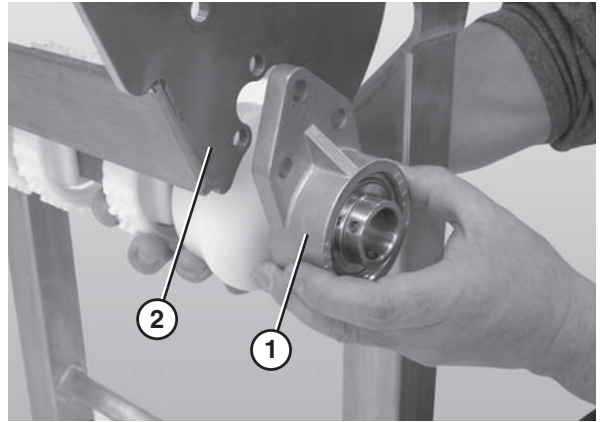

Figure 58
7. Disconnect the 3 hole flange bearing (**Figure 58, item 1**) from the nose bar drive weldment (**Figure 58, item 2**).